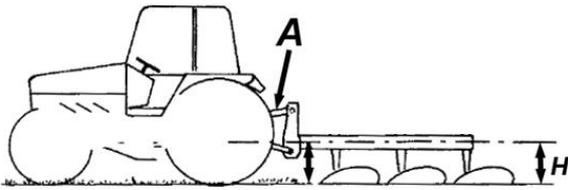

Figure 6. Plough longitudinal levelling
**Longitudinal levelling** of the plough shall be performed by proper lengthening or shortening the upper connector (**A** Fig. 6) so that the tool frame, from the side view, was set horizontally to the ground after gaining the full depth that is the front and back of the